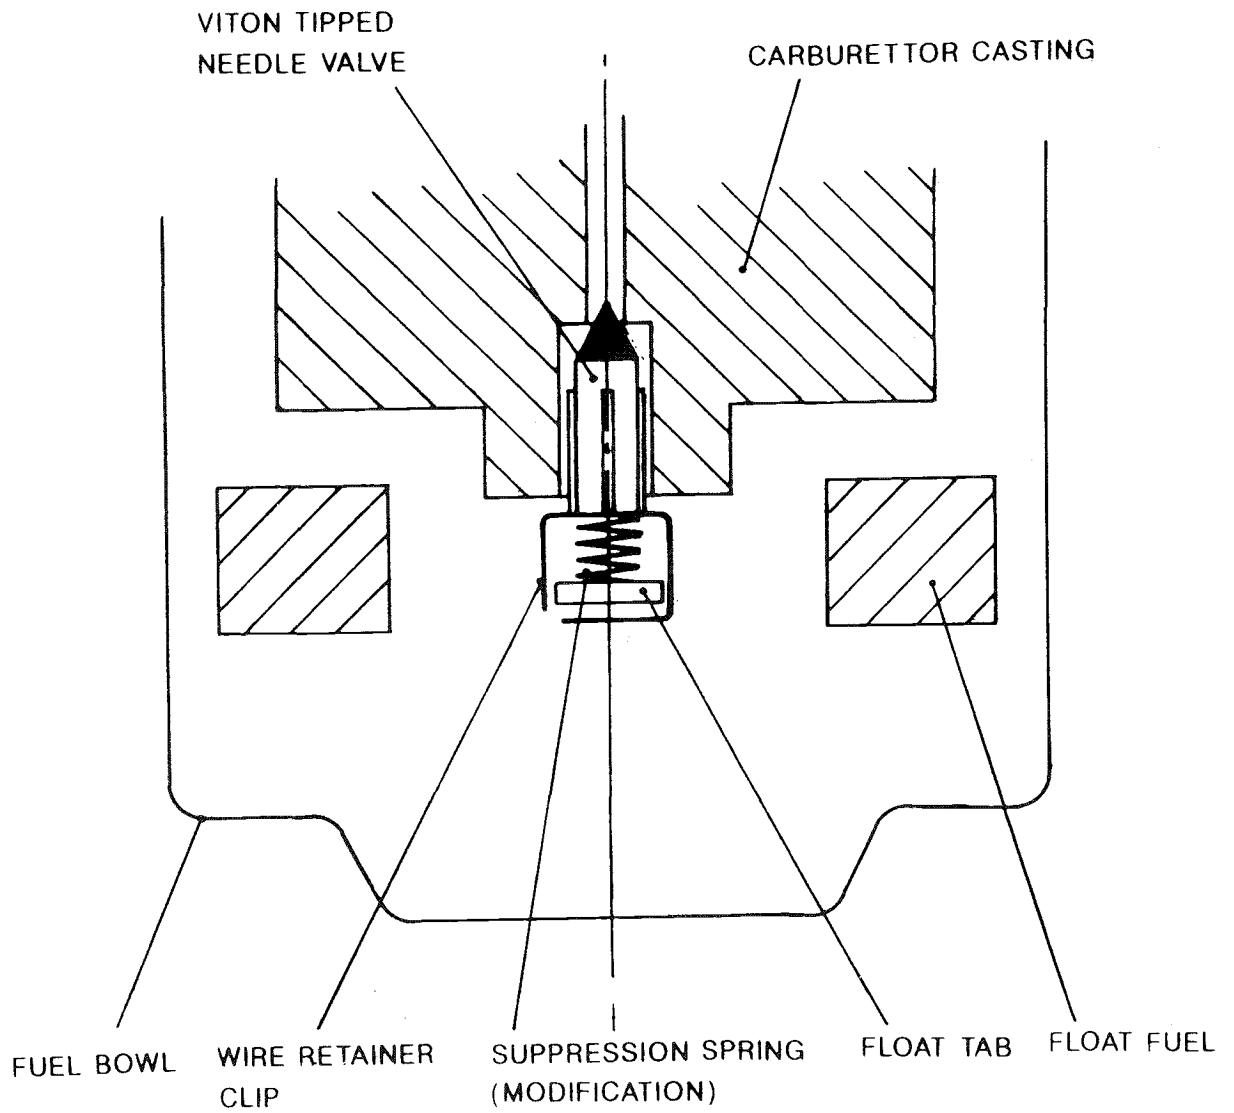

Fig 2 Carburettor complete assembly
9.12 Invert the carburettor and refit the float/needle assembly. Refit the float arm pin, pushed from the flattened end. Refit the float chamber, ensuring that the rubber seal is in place. Refer to Fig 2 for complete assembly details.